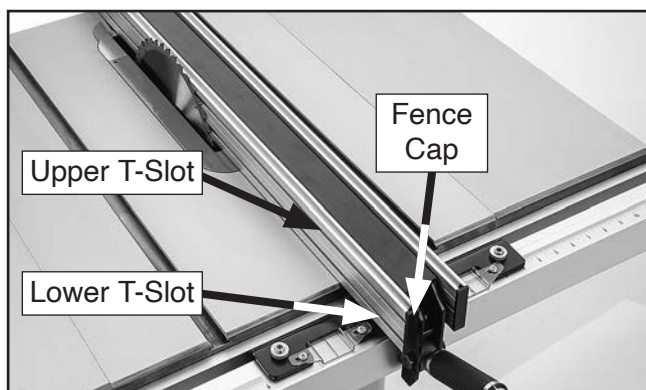

Figure 68. Auxiliary fence mounts on upper or lower T-slots of fence face.
1. Remove fence cap from fence face on which you will mount auxiliary fence (see **Figure 68**).